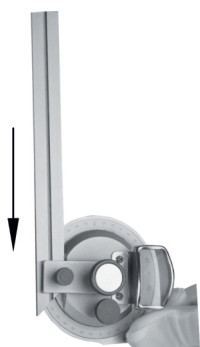

Fig. 1
- » Install the movable arm by sliding it along the slot (Fig. 1) and secure it with the locking screw.